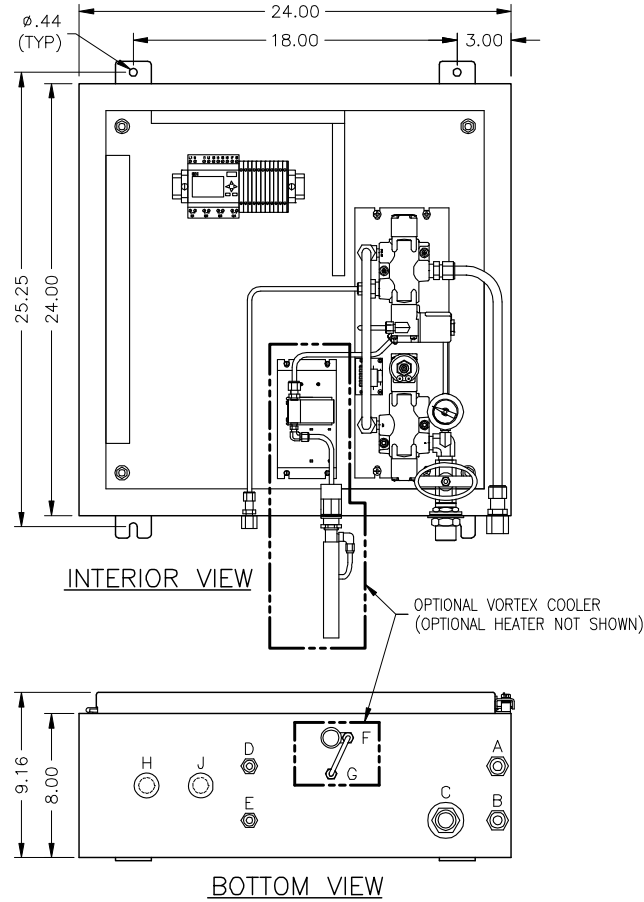

Figure 3.2
A. STATIC PRESSURE (LO) SIGNAL FROM FLOW ELEMENT	1/2" (F)NPT
B. TOTAL PRESSURE (HI) SIGNAL FROM FLOW ELEMENT	1/2" (F)NPT
C. SUPPLY AIR 80 – 125 PSIG	1/2" (F)NPT
D. STATIC PRESSURE TO TRANSMITTER	1/4" (F)NPT
E. TOTAL PRESSURE TO TRANSMITTER	1/4" (F)NPT
- Figure 3.2 depicts the various bulkhead connections located on the bottom of the AUTO-purge III Panel.